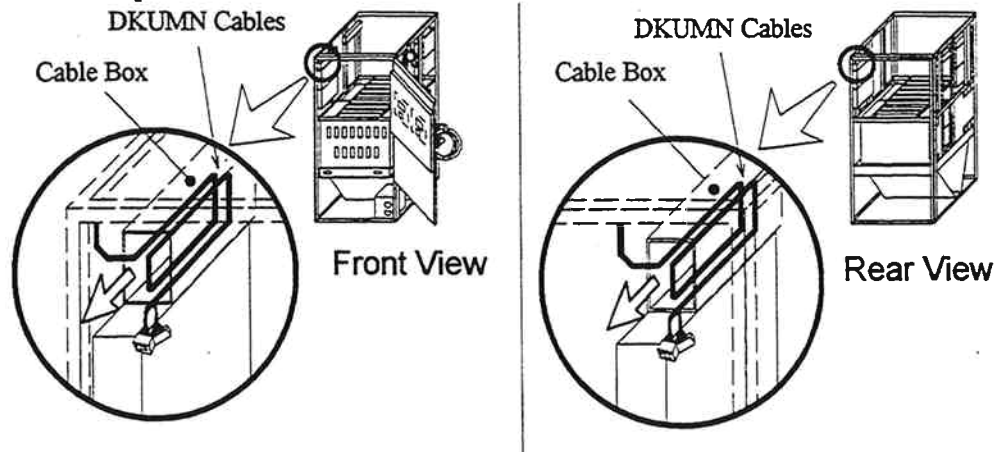

Fig. 3.3.4.5.1-1 Binding of DKUMN Cables
2. Before binding the DKUMN cables, secure the DKUMN PCB. Refer to Fig. 3.3.4.5.1-2.